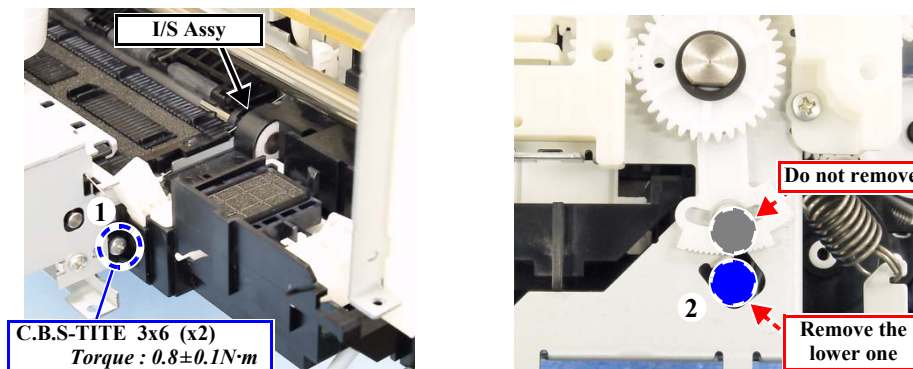

Figure 4-59. Removing the I/S Assy
3. Remove the screws (x2), and remove the I/S Assy. (Fig. 4-59)
- Tighten the screws in the specified order. (Fig. 4-59)